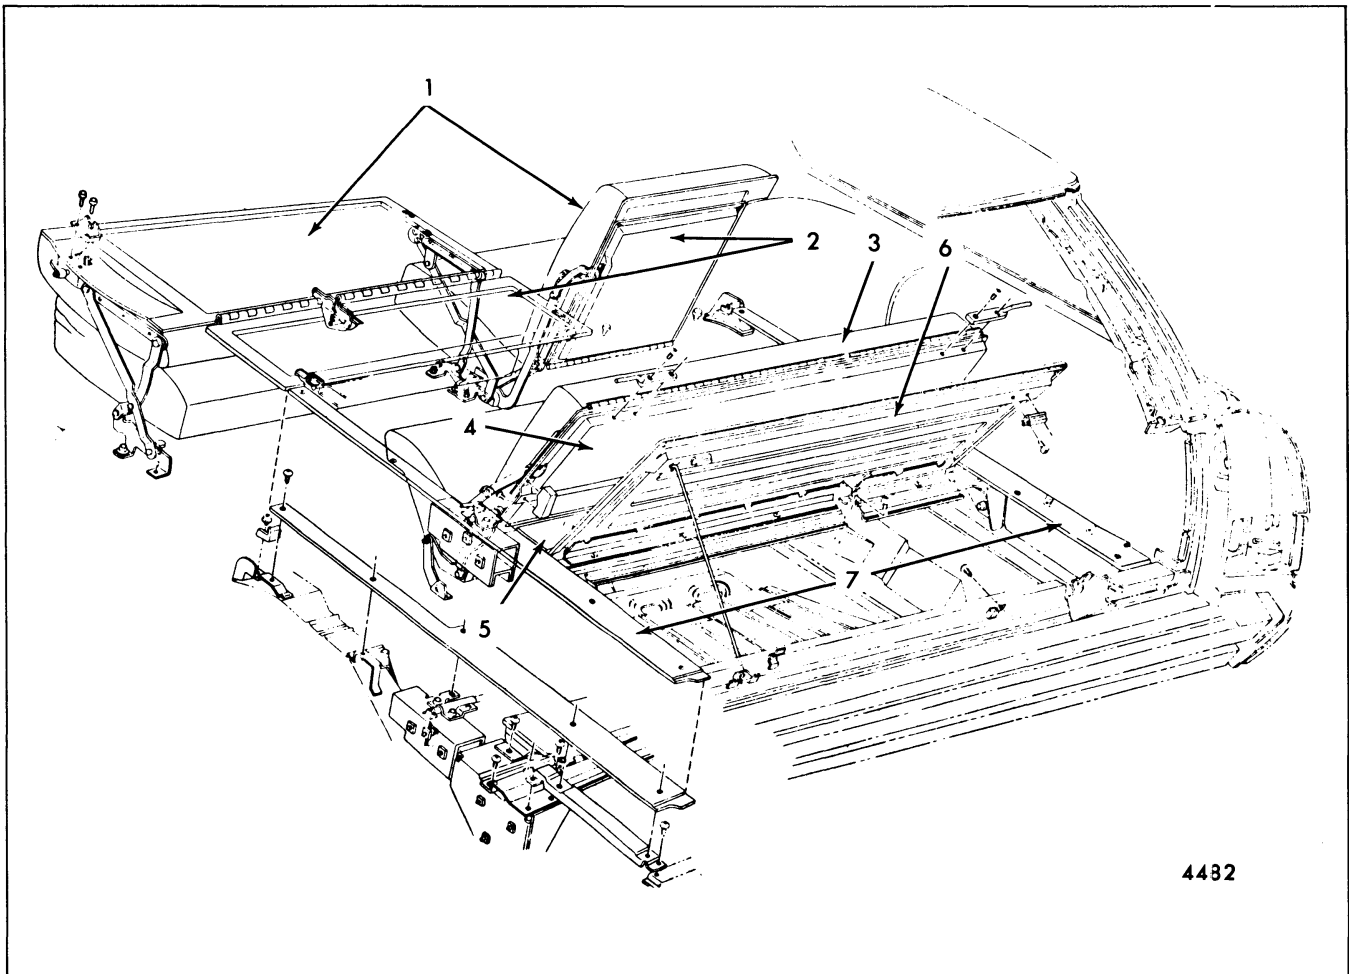

Fig. 9-74-Folding Seats and Load Floor Panels - "B" Body Three-Seat Styles
3. Figure 9-74 is typical of All "B" Body Three-Seat Station Wagon Styles.